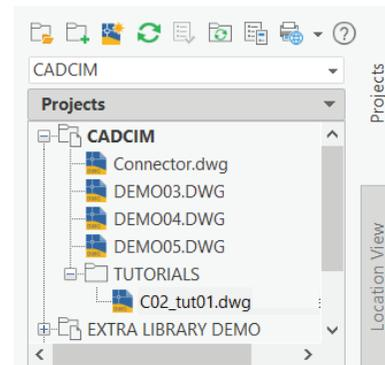

Figure 2-70 The *C02_tut01.dwg* moved to the **TUTORIALS** subfolder
3. Drag and drop the *C02_tut01.dwg* drawing created in Tutorial 1 on the **TUTORIALS** subfolder; the *C02_tut01.dwg* drawing is moved to the **TUTORIALS** subfolder; refer to Figure 2-70.